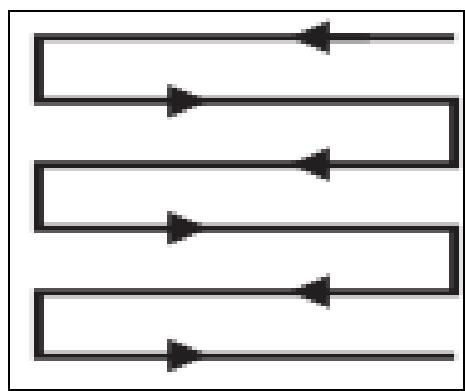

Fig. 9
- 6) Mow in slight overlapping rows. The most effective pattern for mowing lawns is straight lines along one of the sides. This will keep the rows even and ensures that all the lawn is cut without missing any spots (Fig. 9).